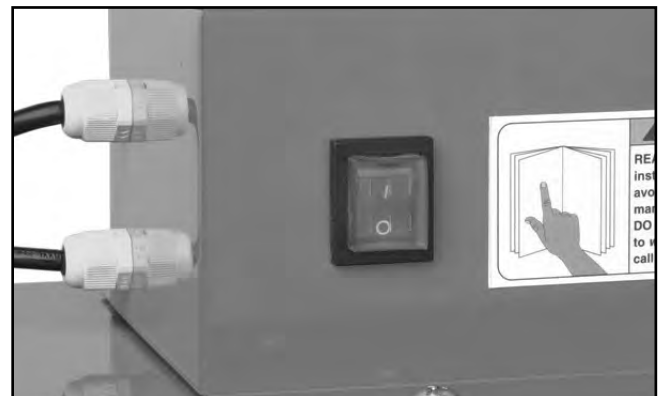

Figure 27. Main power button.
11. Push the power switch to start the dust collector and to turn the work lamps **ON** (see **Figure 27**).